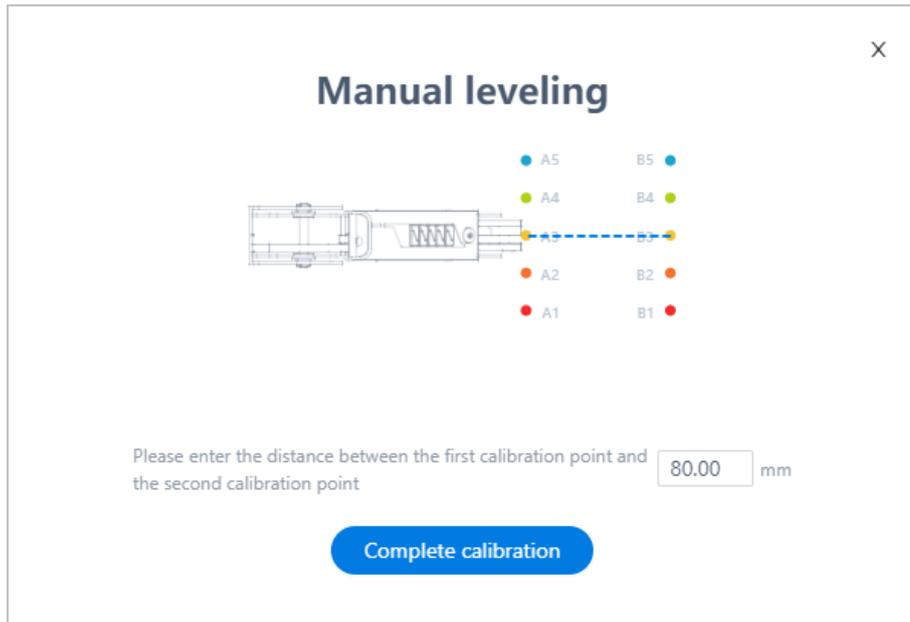

Figure 5.127 Set the distance between two calibrated points
- Step 9** Set the distance between the two calibrated points, as shown in Figure 5.127. As the distance between the two calibrated points on the calibration board is 80mm, please keep the default value in this step.